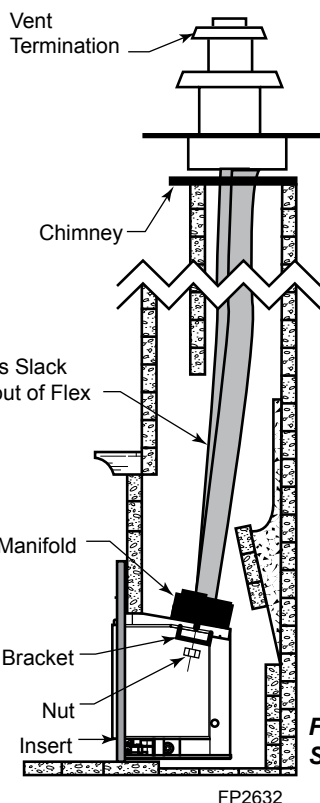

**Figure 13 -
6. Slide insert into place. Guide the manifold over the insert until it is fully in place. *Figure 13*
7. Remove any slack from flex vent. Attach manifold to insert. *Figure 13*
8. Remove any excess slack in flex line. Attach vent termination. *Figure 13*